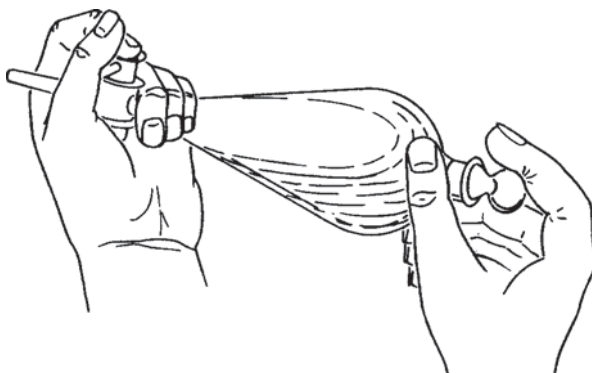

Figure 31.1
5. Carefully add 5.0 mL of dichloromethane to the separatory funnel. Stopper the funnel and lift it from the ring clamp; hold the funnel with two hands as shown in Figure 31.1. By holding the stopper in place with one hand, invert the funnel. *Make certain the stopper is held tightly and no liquid is spilled; make sure the liquid is not in contact with the stopcock; open the stopcock, being sure to point the opening away from you and your neighbors.* Built-up pressure caused by gases accumulating inside will be released. Now, close the stopcock and gently mix the contents by inverting the funnel two or three times. Again, release any pressure by opening the stopcock as before.